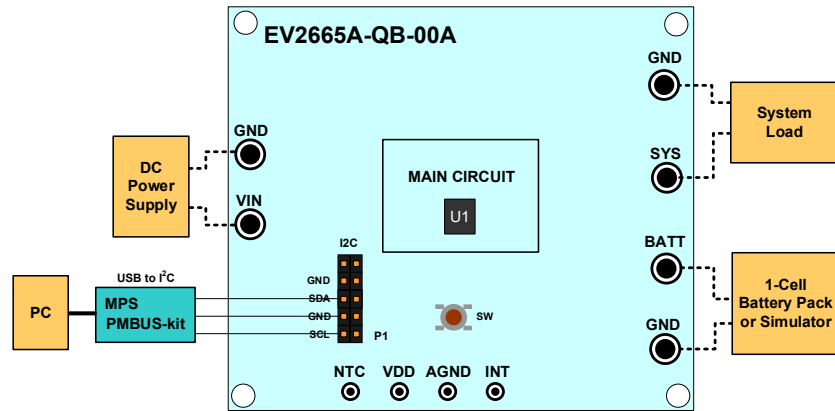

Figure 3: Test Set-Up for the MP2665A
3. Figure 3 on page 3 shows the original test set-up for the MP2665A.